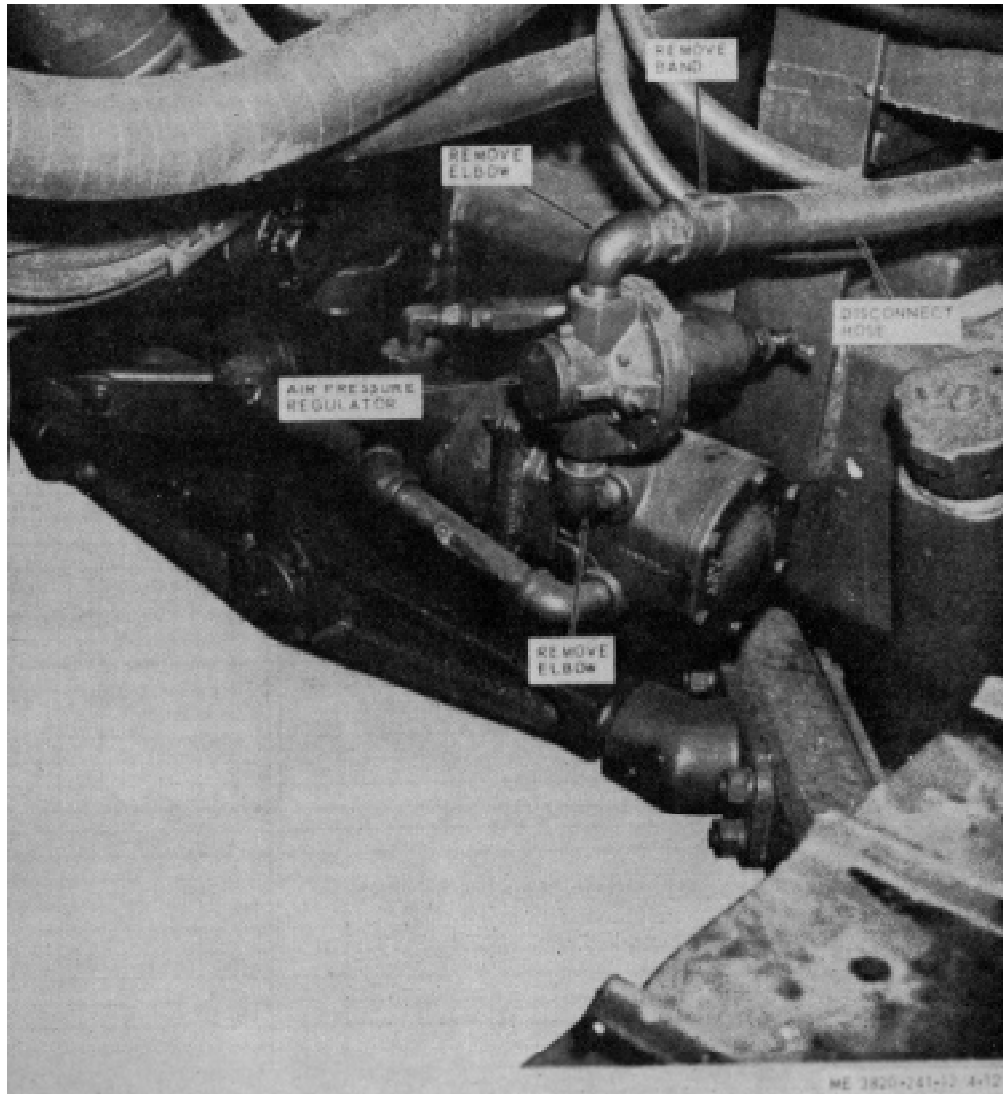

Figure 4-12. Air pressure regulator, removal and installation.
(2) Remove the air pressure regulator as illustrated in figure 4-12.